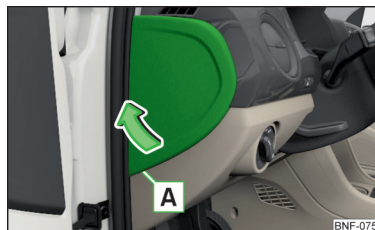

Fig. 137
- Insert a slotted screwdriver into the recess **A** in the cover » Fig. 137.